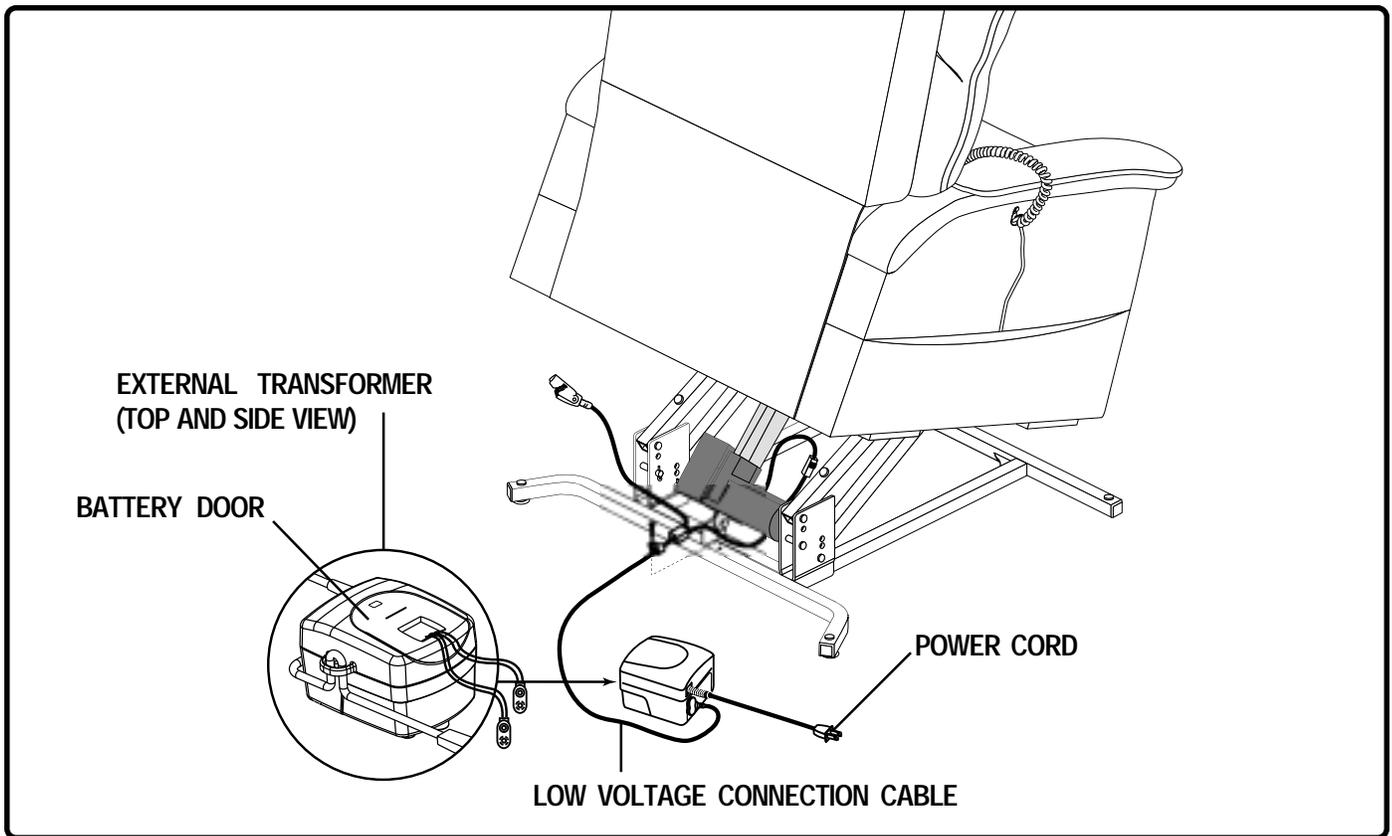

Figure 4.2 Standard Lift Chair Battery Location
3. Install two 9V batteries into the external transformer (Fig. 4.2 and 4.3).